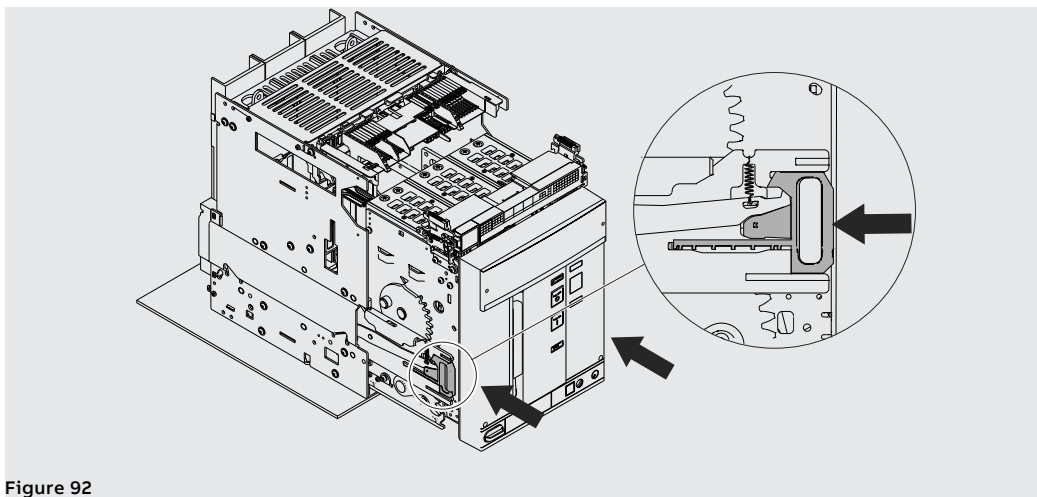

Figure 92
7. Grip the guide levers of the fixed part and push them until the moving part stops. See Figure 92.